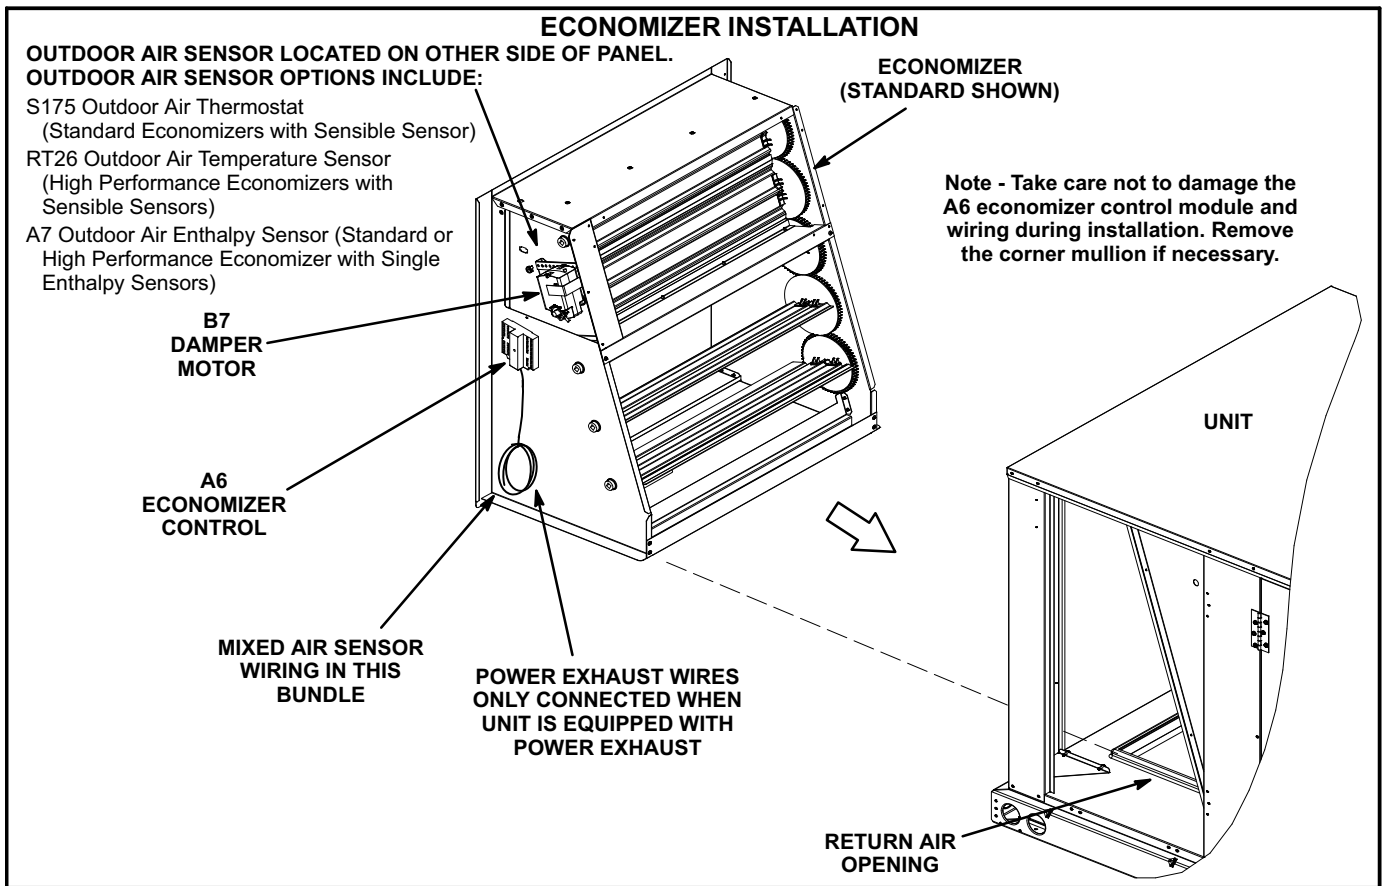

FIGURE 2
2. Install damper assembly through end of unit. Fit opening in bottom of damper assembly over the return air opening. See figure 2.